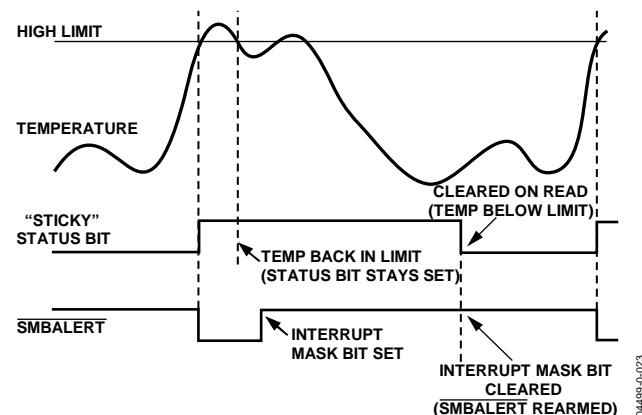

Figure 29. How Masking the Interrupt Source Affects SMBALERT Output
7. Periodically poll the status registers. If the interrupt status bit has cleared, reset the corresponding interrupt mask bit to 0. This causes the SMBALERT output and status bits to behave as shown in Figure 29.